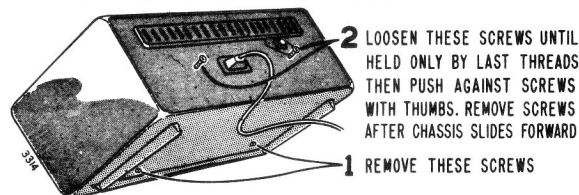

Figure 2. Rear View of Cabinet Showing Chassis Mounting Screws.
2. Remove cabinet from chassis with front panel attached, as shown in figure 2.